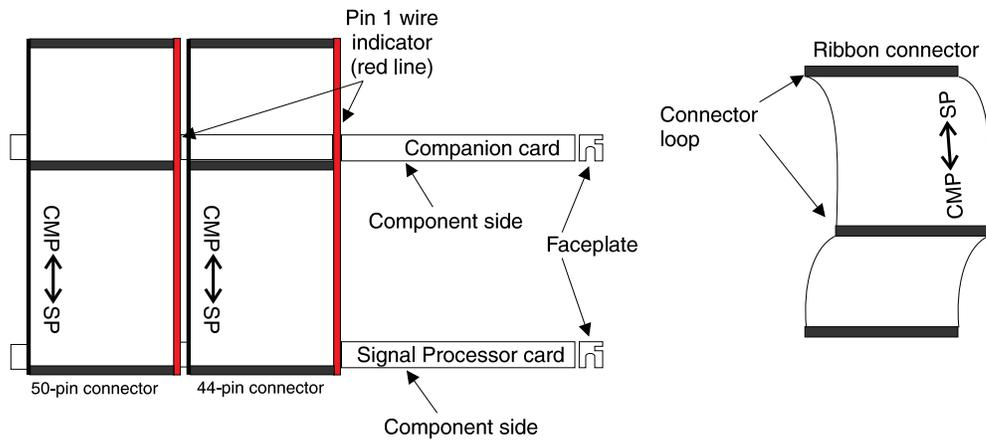
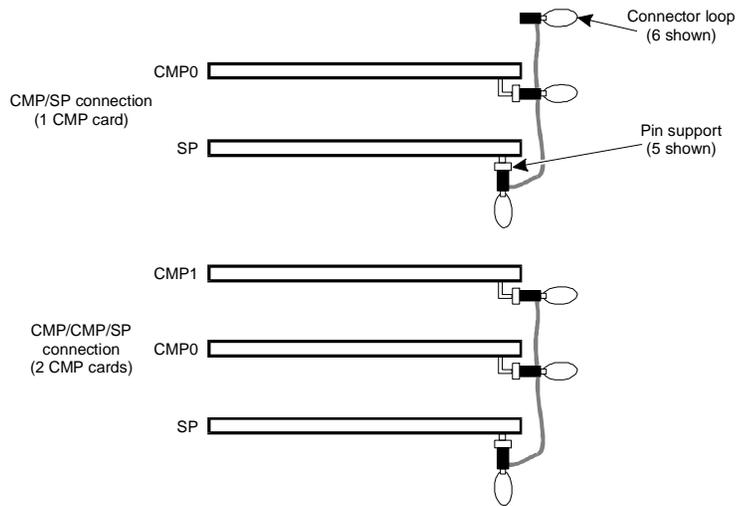

Figure 7-25. Top View of the Signal Processor/Companion Bus Cables
Figure 7-26. End View of Signal Processor/Companion Bus Cables
- The ribbon cables that connect the SP and CMP cards are polarized. Figure 7-25 and Figure 7-26 show how they are oriented with respect to the SP and CMP cards.
5. Push with uniform force across the width of the loop to install the connector. One ribbon is a 50-pin conductor cable. The other is a 44-conductor cable. See Figure 7-25 and Figure 7-26 for the proper cable and card configuration.